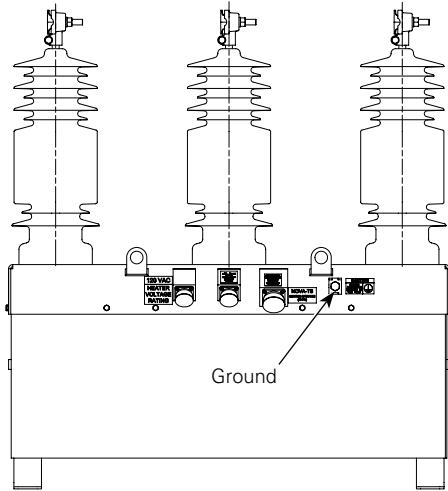
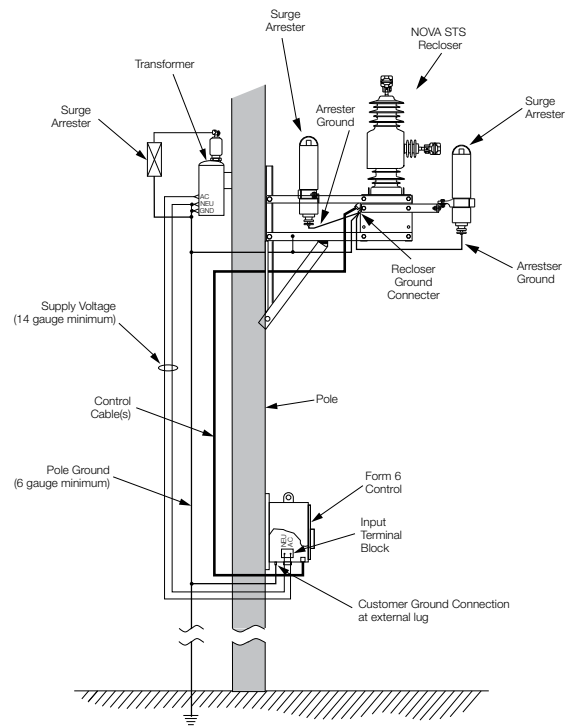

Figure 4. NOVA STS recloser ground and receptacles.
Figure 8. Recommended grounding method for NOVA STS recloser with Form 6-TS microprocessor-based recloser control.
4. **Ground the reclosers and mounting hanger.** Make the ground connection to the ground connector in accordance with approved utility standards. The ground connector is located on the back of the mechanism housing. See Figure 4 for ground connector location. The ground clamp accepts #10 to #2 stranded cables. See Figures 8 and 9 for recommended grounding for the NOVA STS recloser.
Installation with a local supply voltage transformer must include the following (refer to Figure 8):